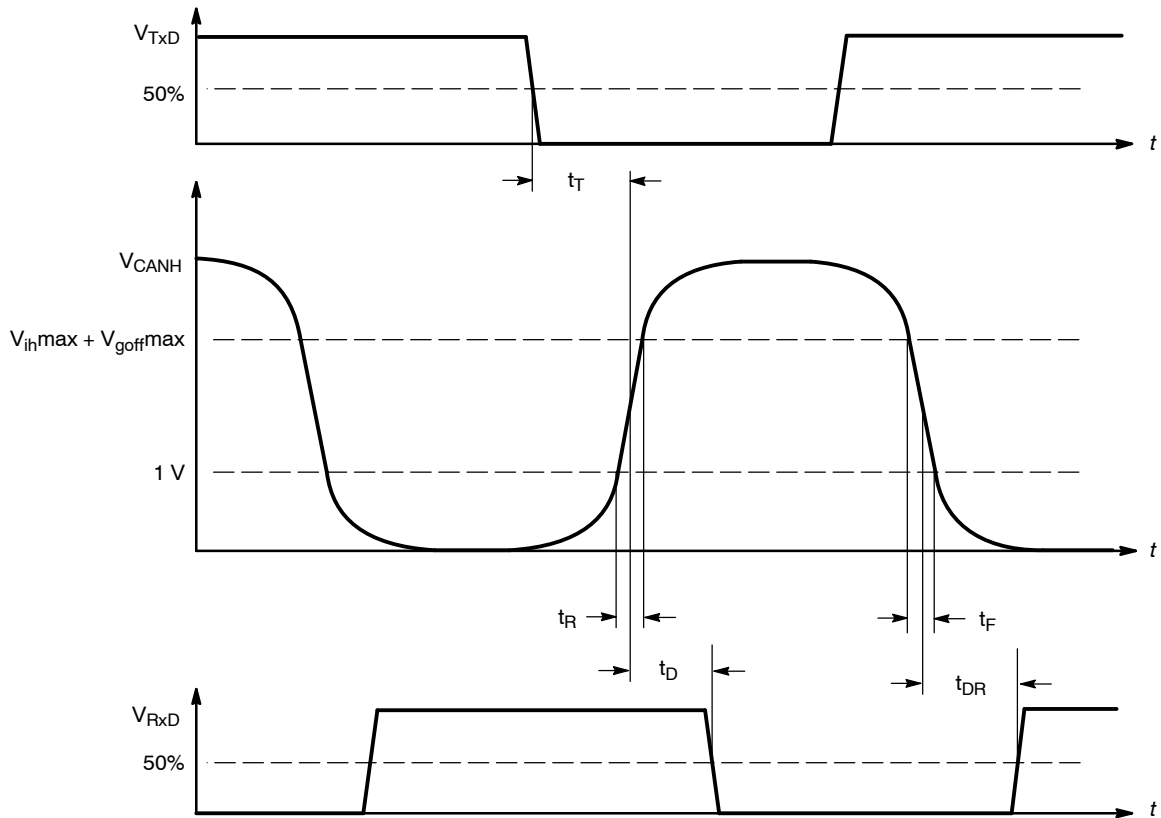

Figure 3. Input/Output Timing
**AC CHARACTERISTICS** (See Figures 3, 4, and 5)